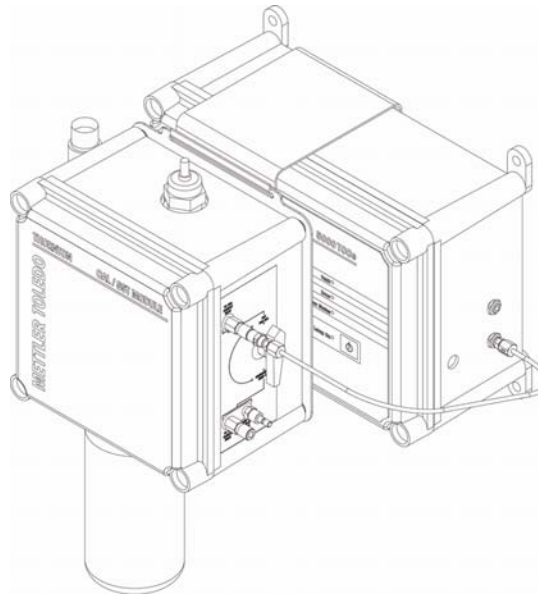

Figure 3
8. Re-connect the original drain tube to the Sample Outlet of the 5000TOCe Sensor and run it to atmospheric drain. It is critical not to re-circulate this solution. Tubing should now appear as in Figure 3.
2. Set up equipment as shown in Figure 3 using Blank Water. Optionally, the flow rate verification and calibration may be done using process water, with the TOC sensor connected to the water system as normal.